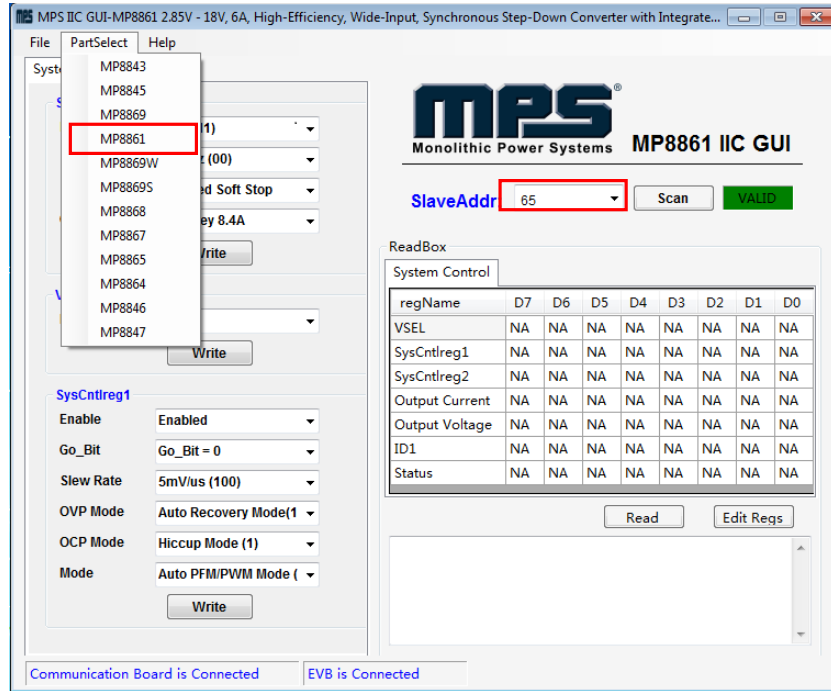
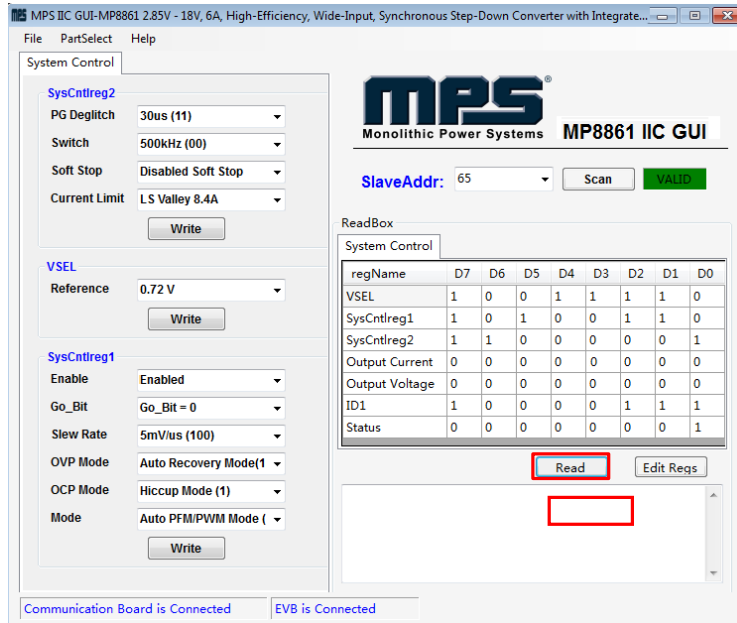

Figure 7: Appearance of Address Shows Successful Connection
Figure 9: Values from I2C Shown in Table
- If connection is successful, the address will be listed in the “Slave Address” (see Figure 7).
- Click the **“PartSelect”** button to select the MP8861 (see Figure 7). The Register Control menu will appear on the left side. The I²C register values will be read and displayed on the right side after clicking the **“Read”** button (see Figure 9).